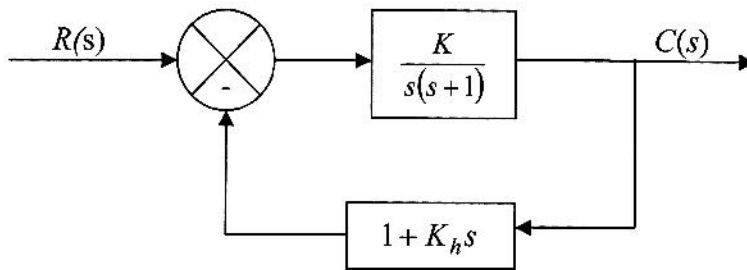

Fig.1
1. For the system shown in Fig. 1, determine the values of gain  $K$  and velocity feedback constant  $K_h$  so that the maximum overshoot in the unit step response is 0.2 and the peak time is 1 sec. With these values of  $K$  and  $K_h$ , obtain the rise time and settling time. 16